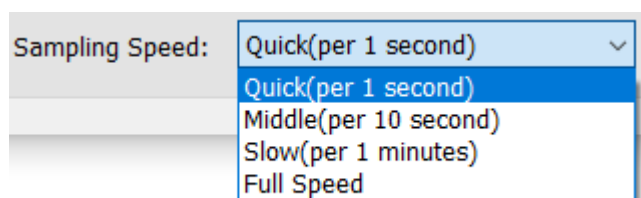

**Figure 3-12 Power Monitor Section**
- **12V/ FPGA Core/ VCC1P2 Power monitor:** It displays the real-time 12V /FPGA/ VCC1P2 Power voltage and consumption current on the Atum A5 board, as shown in **Figure 3-12**.